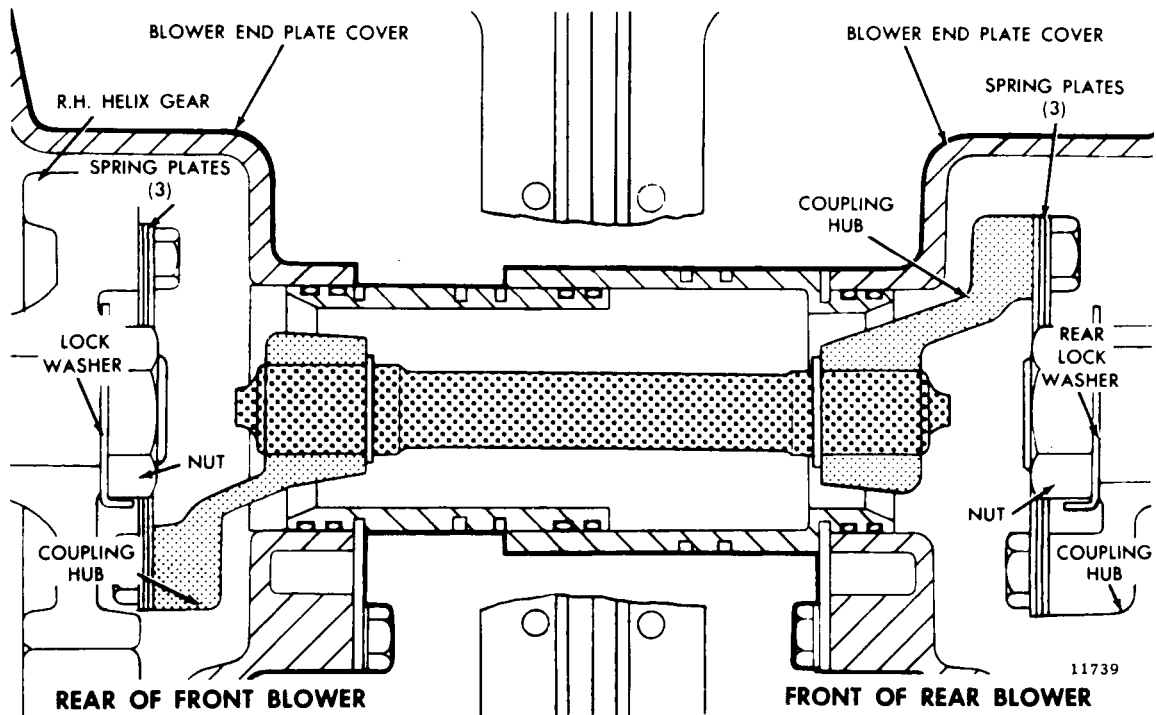

Fig. 5 - Tandem Blower Coupling Hubs
5. Remove the three (3) 7/16"-20 x 7/8" self-locking bolts securing the blower drive coupling hub to the front of the rear blower (Fig. 5). Remove the hub and spring plate assembly.